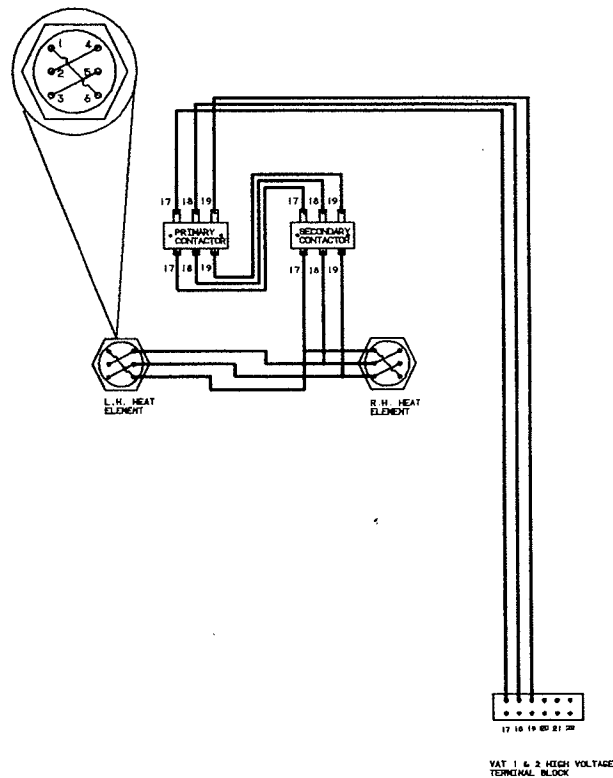

FIGURE 1. VAT 1 208 VOLT CIRCUIT
The 208 volt circuit of Uni-Top II Fryer vat one consists of two (2) electrical contactors, **PRIMARY** and **SECONDARY**, and two (2) flat blade heating elements. These components are electrically wired to terminals 17, 18 and 19 of the high voltage terminal block as shown in figure 1.